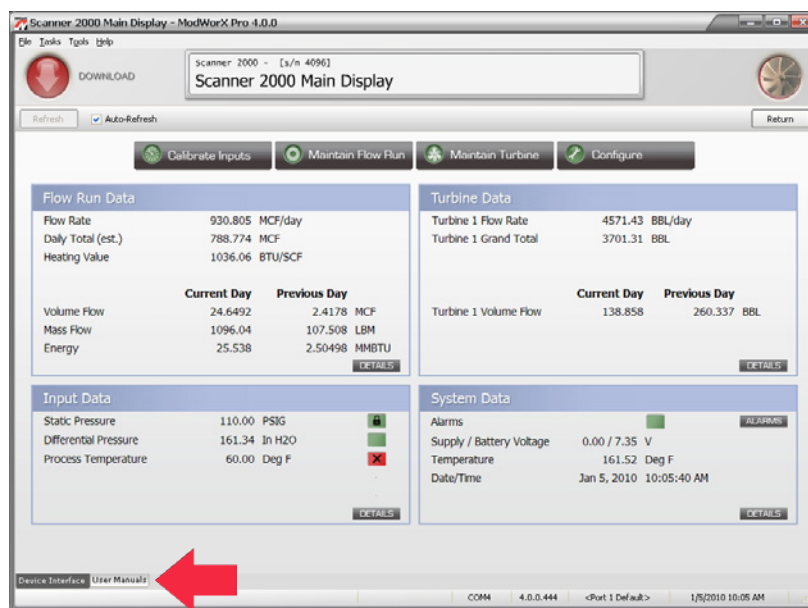

Figure 2.14
- Click the **User Manuals** tab at the bottom of the screen (Figure 2.14). Documents will open within the ModWorX Pro viewing window.